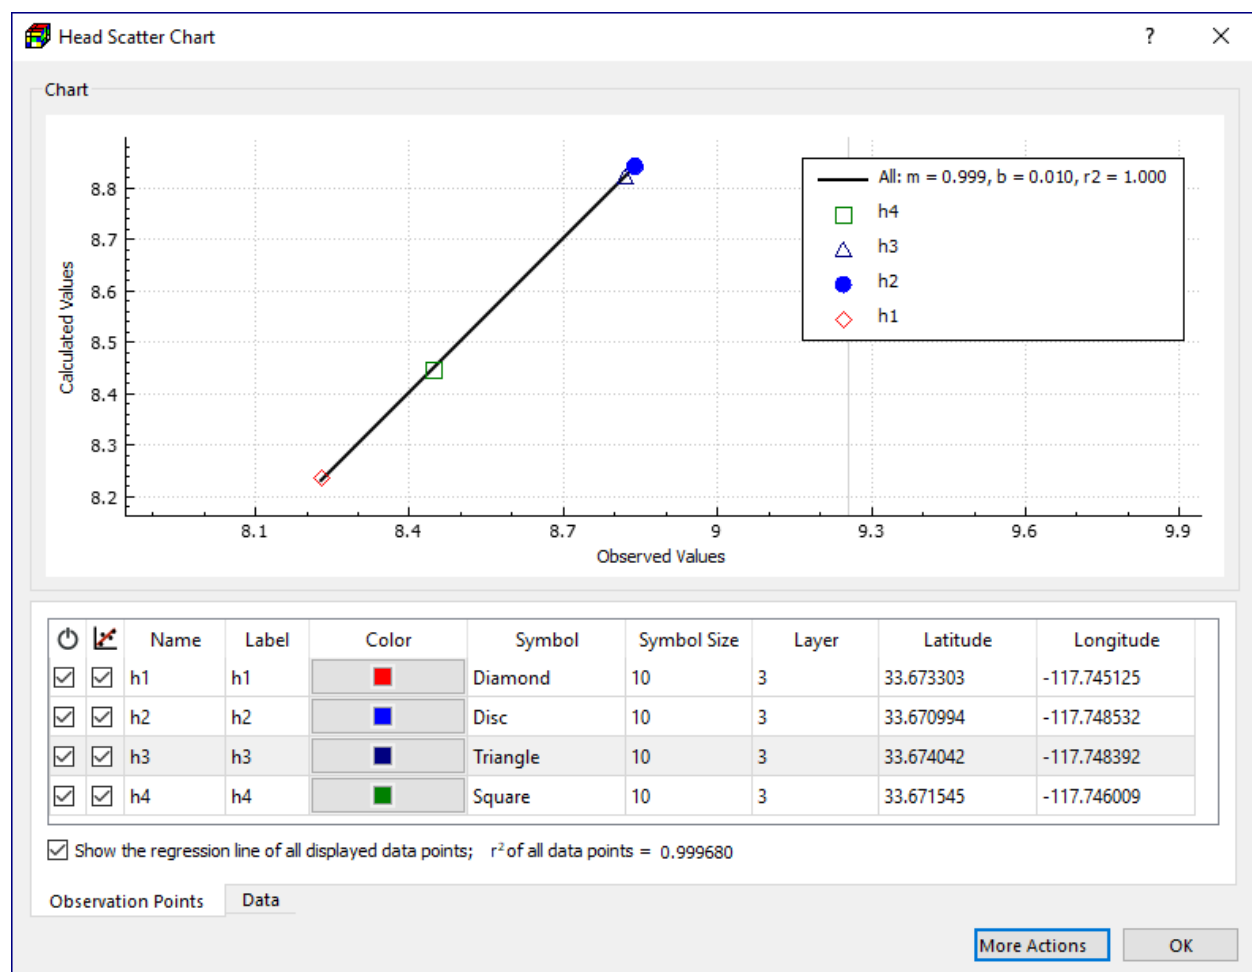

Figure 21. The Head Scatter Chart dialog box
1. Select Models > PEST > View > Scatter Chart > Head to display the Head Scatter Chart window (Figure 21).